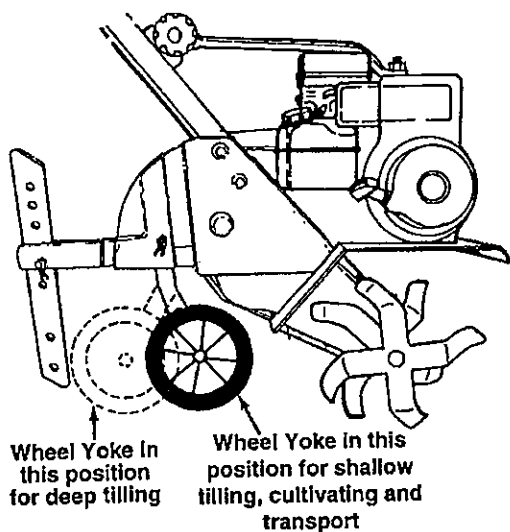

FIGURE 8
1. **Wheel Yoke Adjustment:** Place wheel yoke so that the wheels are forward (nearest point between wheels and tines) for shallow tilling, cultivating and transport. The forward speed will increase. Turn yoke around (farthest point between wheels and tines) for deep tilling. Forward speed will decrease. See figure 8.